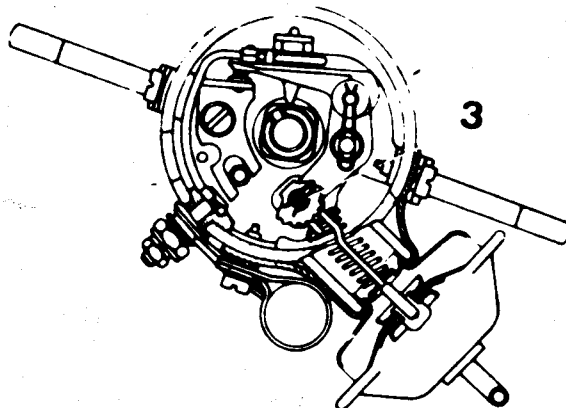

Fig.18 - Vacuum Adjustment.
Check that there is the same gap between the two extreme positions of the points i.e.; without vacuum and with maximum vacuum, if this is not the case, turn the cam (see fig.18) by means of the special key 46M 6184. After carrying out this adjustment re-check that the points gap is still correct.